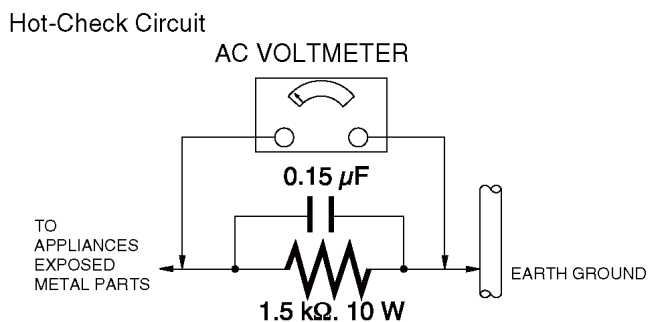

Figure. 1
1.3. Leakage Current Hot Check (See Figure. 1)
- Connect a 1.5 k Ω , 10 W resistor, in parallel with a 0.15 μ F capacitor, between each exposed metallic part on the set and a good earth ground, as shown in Figure. 1.